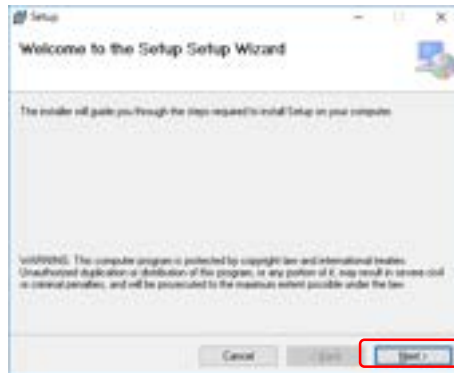

Fig 4-4 Bel-Cypher Pro TWAIN Setup Wizard
6) After the installation was completed, the dialogue such like Fig. 4-4 Bel-Cypher Pro TWAIN Setup Wizard starts. Click “Next”